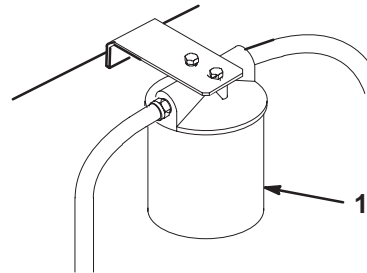

Figure 52
3. Place drain pan under filter, remove the old filter and wipe the filter adapter gasket surface clean (Fig. 52).